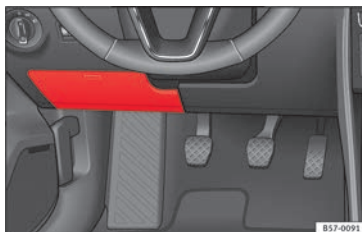

Fig. 101 On the driver-side dash panel (left hand drive): fuse box cover
- *Opening*: fold the cover down » **Fig. 101**.